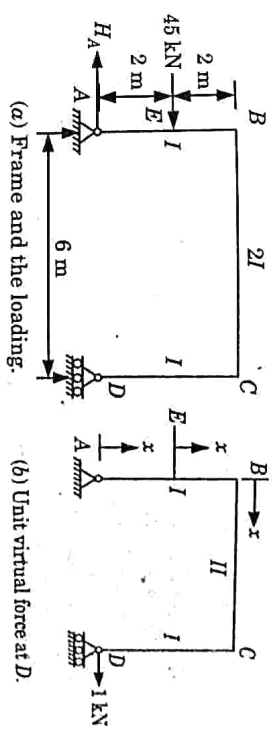

Fig. 27.
- The unit force (1 kN) is applied at support D in the direction of the desired displacement Fig. 27(b). The origin and the positive direction of  $x$  for each section is indicated in Fig. 27(b).